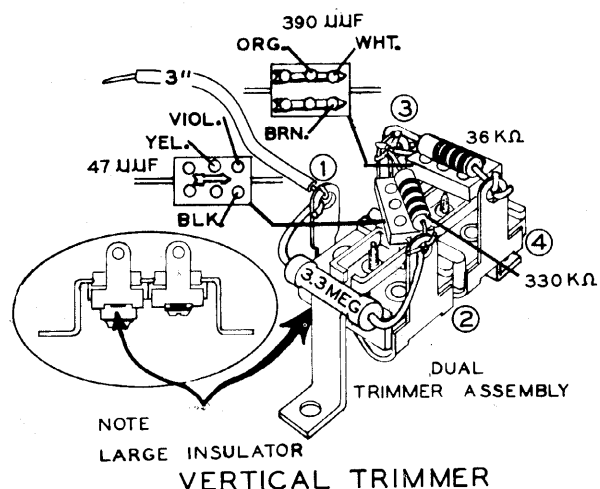

Figure 2
Refer to Figure 2 for the following steps.
- ( ) R4. Select one of the dual trimmers (#31-18) and connect a 3.3 megohm 5% resistor between lug 1 (NS) and lug 2 (NS). Keep the leads of the trimmer components as short as possible and place them as shown in Figure 2.